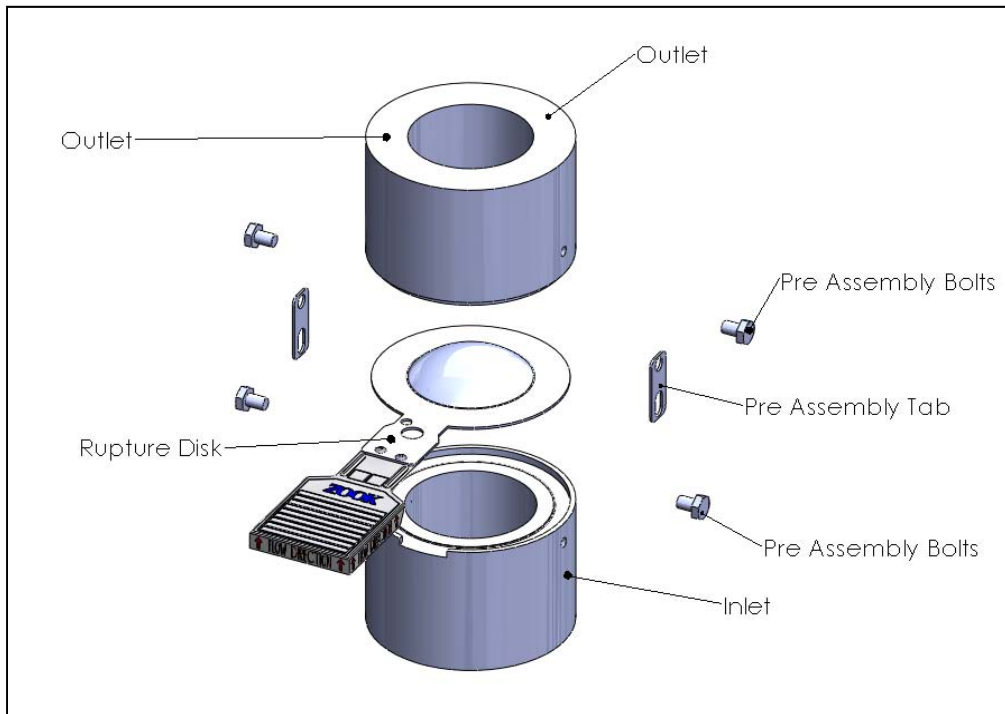

Figure 2 - Type FAHI
- 1) Fasten the assembly together by reinstalling the pre-assembly tabs and screws as shown in figure 2. The pre-assembly screws should be snug, NOT wrench-tight.